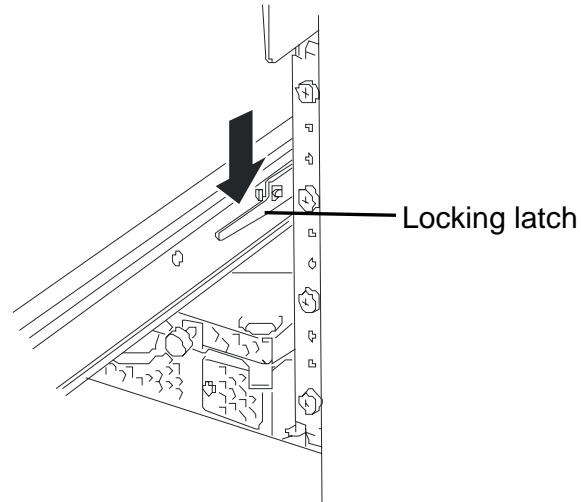

Figure 4-5. Module Locking Latch
5. Pull the release levers to their unlocked position. This disconnects the CPU module from its backplane. Then pull the CPU module out of the chassis until the locking latch engages. See Figure 4-5.